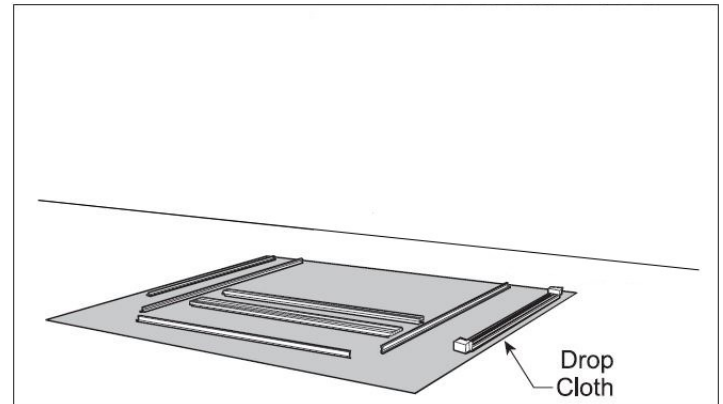

Figure 2
- Lay the parts out on a cleared area face down. Be sure to place a drop cloth over the floor to prevent scratching trim kit and/or floor. (Figure 2.)